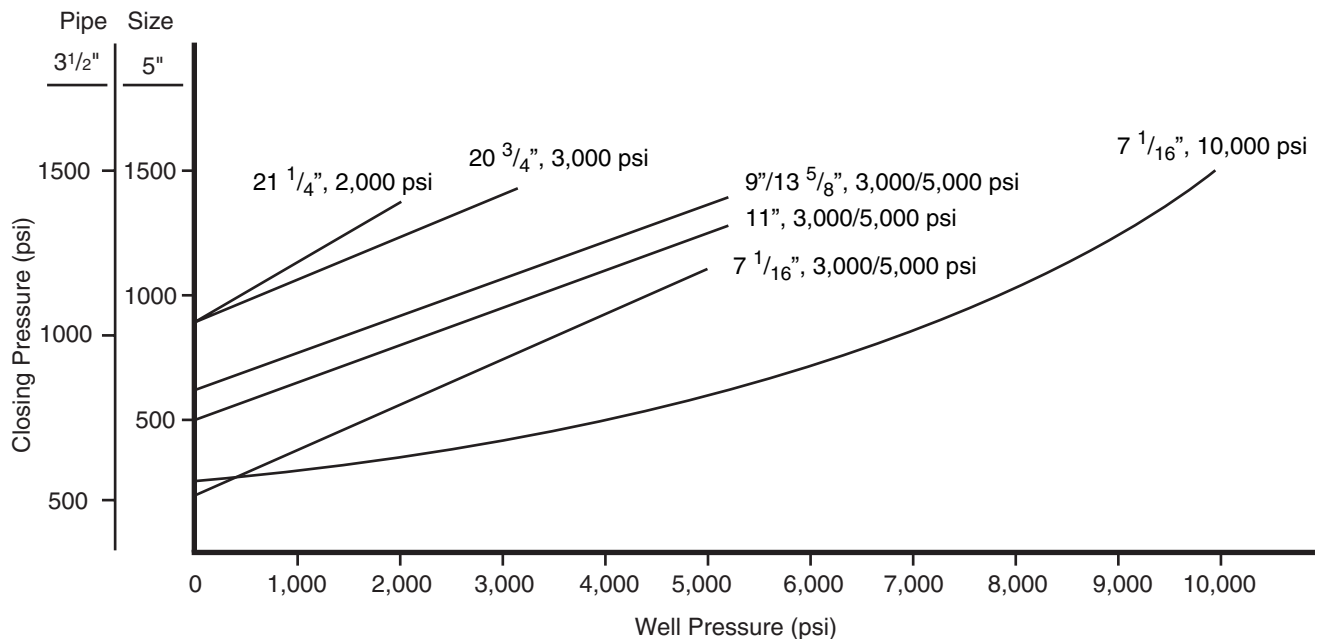
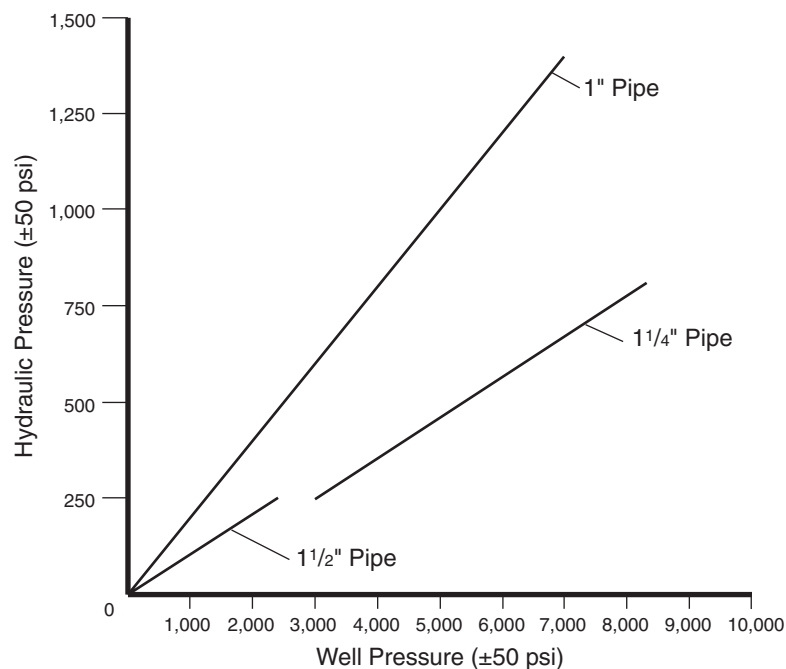
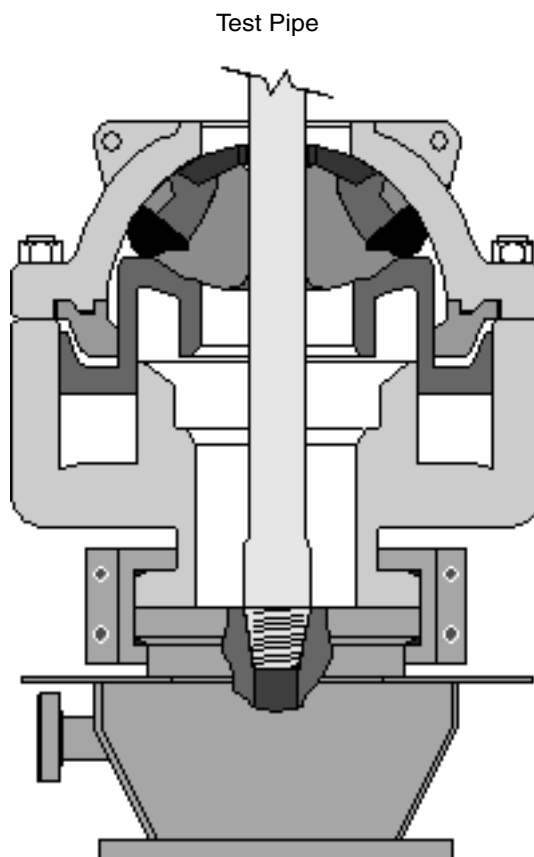

Figure 3-6. Guideline Closing Pressures for Stripping Operations
Figure 3-8. Guideline Closing Pressures for Stripping with 4 1/16", 10,000 psi BOP
Figure 3-9. Anchoring Test Pipe to Blind Flange
In most applications, the Spherical opens and closes with 1,500 psi (103 bar) operating pressure. For stripping operations, see Figure 3-6.
7. When stripping operations are completed, adjust the regulator to 1,500 psi (103 bar). Conservative closing pressure requirements for each Spherical are shown in Figure 3-6 on page 3-10. Use this chart as a starting point to determine required closing pressures. See Figure 3-8 for the closing pressure requirements for the 4 1/16", 10,000 psi (103.17 mm, 690 bar) Spherical.
Test Seals A, B, C. The wellbore pressure test is a means of testing the Spherical BOP sealing element and piston ID upper seal. This test is performed prior to operating the Spherical BOP (see Figure 3-6 through Figure 3-9).
2. Anchor the test pipe at the bottom to prevent well pressure from forcing the pipe upward out of the Spherical (see Figure 3-9).